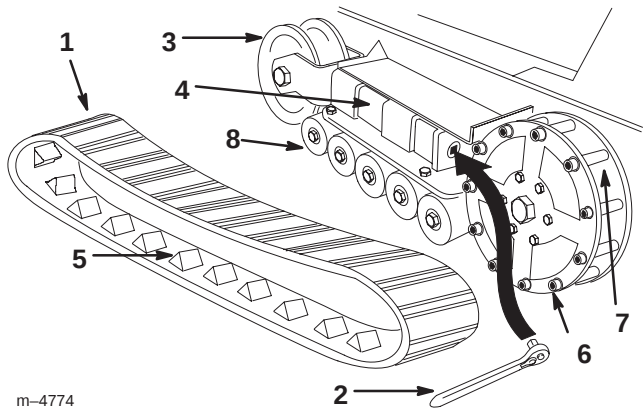

Figure 31
5. Push the tension wheel toward the rear of the unit to move the fork tube against the frame (Fig. 31). (If it does not touch the frame, continue turning the tensioning screw until it does.)
7. When the track is off of the tension wheel, remove it from the drive sprocket and road wheels (Fig. 31).
8. Beginning at the drive sprocket, coil the new track around the sprocket, ensuring that the lugs on the track fit between the spacers on the sprocket (Fig. 31).
9. Push the track under and between the road wheels (Fig. 31).